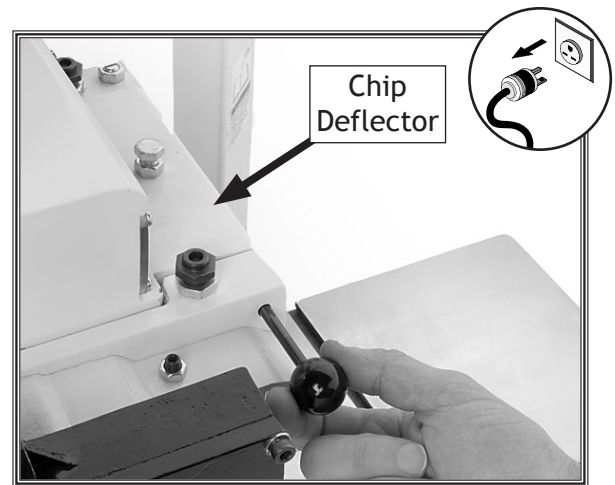

Figure 25. Removing chip deflector retaining pin.
2. Pull the retaining pin shown in **Figure 25**, and remove the chip deflector.